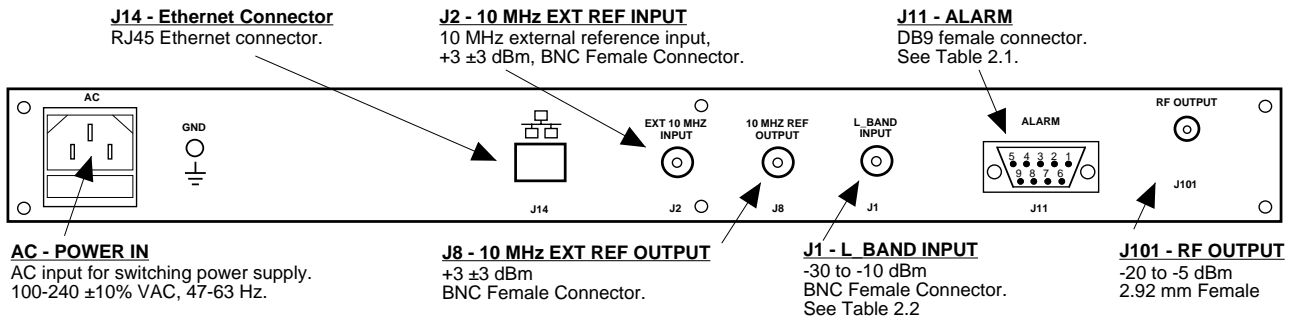

FIGURE 2.1 3115-236#-1200 Rear Panel I/O's
Figure 2.1 shows the input and output connectors on the rear panel.
1. Connect a -30 dBm to -10 dBm signal to L-Band IN, J1 (Figure 2.1).